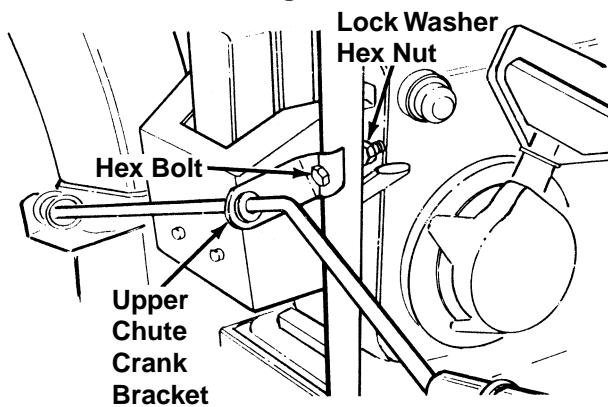

Figure 6
1. Insert hex bolt through the upper chute crank bracket. See figure 6.